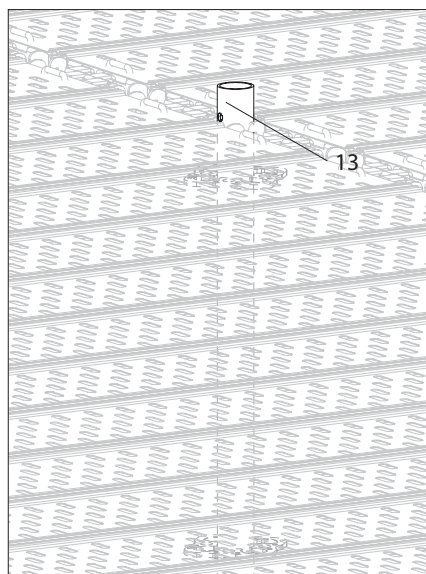

Fig. A2.04a
Top Standards UVH-2 (13) are required, for example, if a spindle is to be inserted into the tube end. On platforms there is a 4 cm overhang. (Fig. A2.04a)